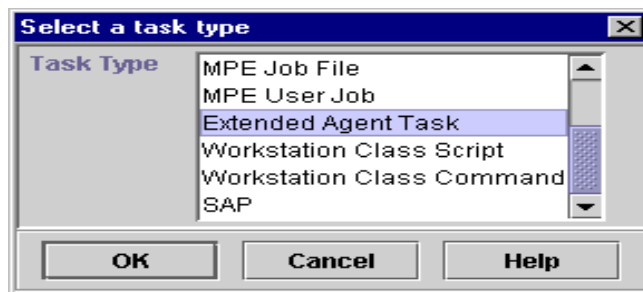

Figure 160. Task type selection panel
2. Select **Extended agent** task type as shown in Figure 160.